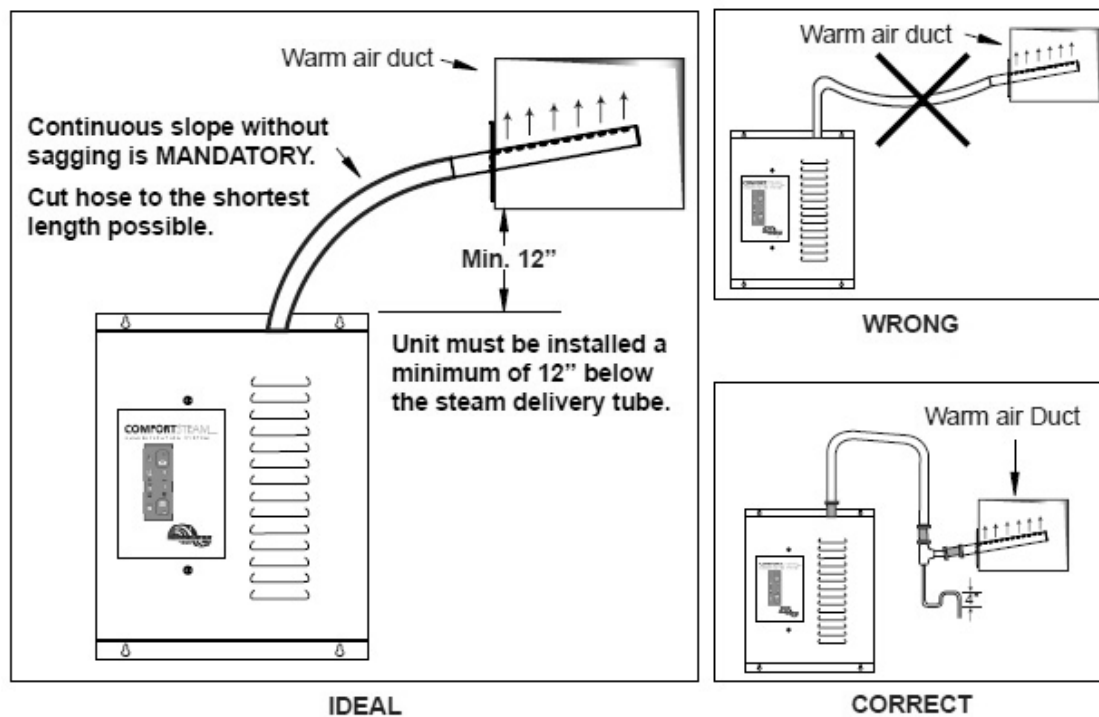

Figure 13d
**WARNING:** Do not let the hose sag when it is connected to the duct. Please see Fig. 13d. A sufficient slope with no horizontal section is mandatory to allow any condensation to flow back naturally to the water tank. Please see Fig. 14e. If condensation water accumulates in the hose, the steam will not be able to escape normally through the steam delivery tube/diffuser and will lead to a malfunction of the humidifier.
**NOTE :** If it is not possible to get enough slope for the condensation to return properly to the water tank, then an S-shaped steam trap (not supplied) must be installed at the lowest point of the steam hose. This steam trap hose should have a minimum height of 4". Please see Fig. 13d.